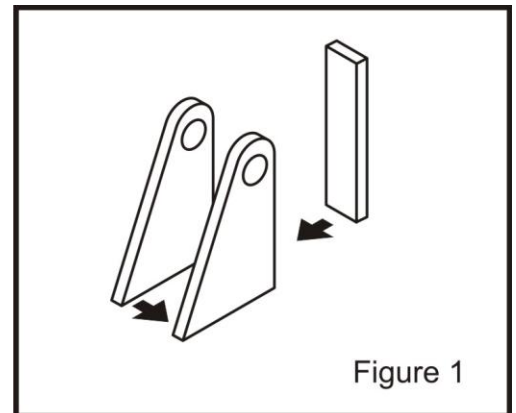

Figure 1
1...Assemble the two housing bracket plates and one of the rod ends using one 3/4" bolt and jam nut. Once plates are square and level, tack weld the housing bracket gusset to the back of the housing bracket plates. (See Figure 1).